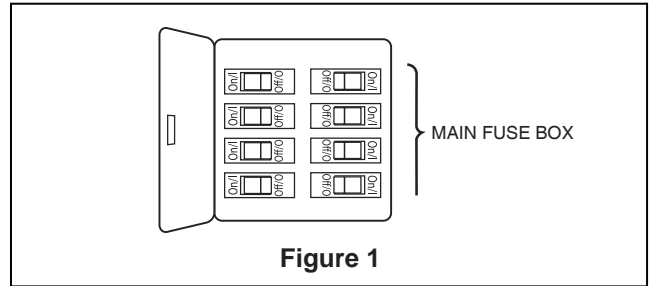
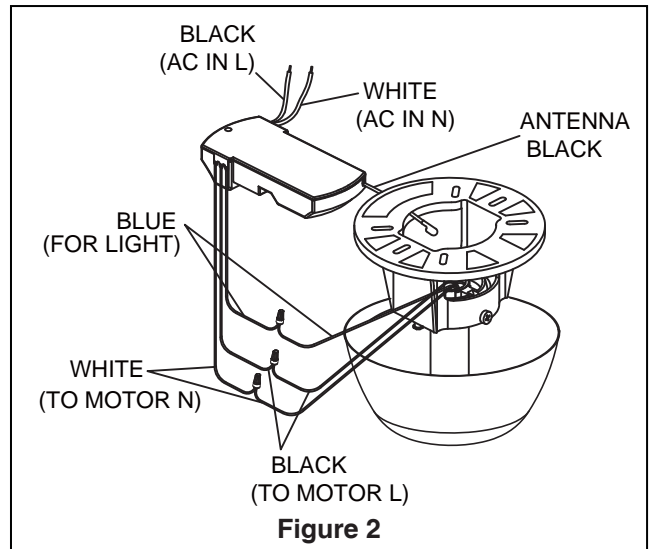
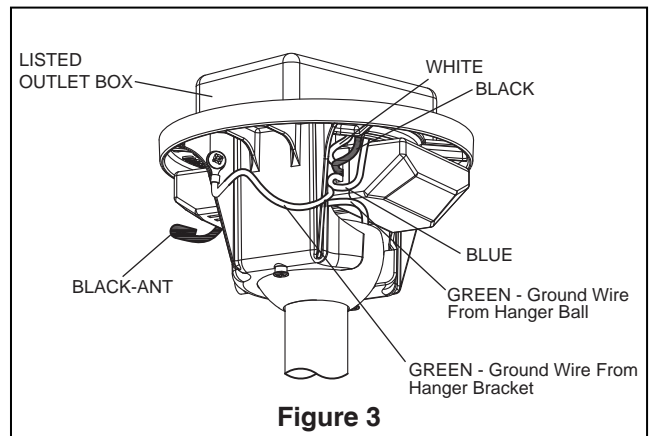

Figure 1
Figure 2
Figure 3
Your new ceiling fan will require a grounded electrical supply line of 120 volts AC, 60 HZ, 15 Amp Circuit. Electrical code requires use of a fan-rated outlet box to support the extra weight and motion associated with a ceiling fan. A fan-rated box will be labeled as such and typically supports up to a 70lb ceiling fan. Fan-Rated Outlet Boxes vary in ratings and design. Ensure the ratings of your ceiling fan outlet box meet the requirements for the ceiling fan being installed. Figure 1, Figure 2 and Figure 3 depicts different structural configurations that may be used for mounting the outlet box.
Low profile box (Figure 1)
Deep box (Figure 2)
Deep box with brace (Figure 3)
1. Cut off excess lead wire approximately 6 to 9 inches above top of the top of the downrod. Strip insulation off 1/2 inch from the end of each lead wire. (Figure 1)
To avoid possible fire or shock, be sure electricity is turned off at the main fuse box before hanging. (Figure 1)
The fan must be hung with at least 7' of clearance from floor to blades. (Figure 2)
1. Securely attach the hanger bracket to the outlet box using the outlet box screws and washers supplied with the outlet box (Figure 3).
<p>To avoid possible electrical shock, be sure electricity is turned off at the main fuse box before wiring (Figure 1).</p>
1. Connect wires using connectors as shown in Figure 2.
2. After connections have been made, turn leads upward and carefully push leads into the outlet box, with the white and green leads to one side of the box and the black leads towards the other side. The wires should be spread apart with the grounded conductor and the equipment-grounding conductor on one side of the outlet box and the ungrounded conductor on the other side of the outlet box (Figure 3).
1. Remove one of the two shoulder screws in the hanger bracket. Loosen the second shoulder screw without fully removing it. Assemble canopy by rotating key slot in canopy over shoulder screw in hanger bracket. Tighten shoulder screw. Fully assemble and tighten second shoulder screw that was previously removed. (Figure 1)
2. Securely attach and tighten the canopy screw cover over the shoulder screws in the hanger bracket utilizing the keyslot twist-lock feature. (Figure 2)
1. Position blades over the threaded posts secure with the 3/16"-24 screws and fiber washers. (Figure 1)
- 1. Remove one of the three screws in the support bracket at the bottom of the motor assembly and retain the screw for later. Slightly loosen the remaining two screws. (Figure 1)
- 2. Assemble the light plate assembly to the motor assembly support bracket using the two key slots in the light plate assembly. Replace the previously removed screw and securely tighten all three screws. (Figure 2)
- 3. Remove one of the three screws in the light plate assembly and retain the screw for later. Slightly loosen the remaining two screws. (Figure 3)
1. **IMPORTANT:** Using a full range dimmer switch (not included) to control fan speed will damage the fan. To reduce the risk of fire or electrical shock, do not use a full range dimmer switch to control the fan speed. (Figure 1)
2. Restore electrical power to the outlet box by turning the electricity on at the main fuse box. (Figure 2)
3. Remote button functions are as follows: (Figure 3)
1. Installing Wall Plate: (Figure 1)